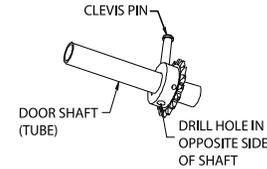

Figure 4B
- 3) Drill through opposite side of shaft to obtain proper hole alignment. **Fig. 4B.**